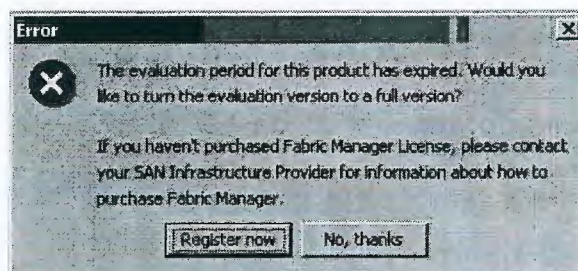

Figure 2-2 Fabric Manager Evaluation Installation Version Expiration Error
After the 60th day, the evaluation version expires and an error message appears when you launch the trial version of Fabric Manager (see Figure 2-2).
- ◆ Click **Register Now** from the error message that displays when you launch Fabric Manager after the 60 day evaluation period is up (see Figure 2-2)